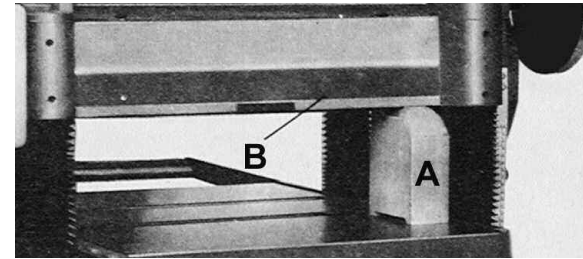

FIGURE 18
3. Move the gauge block (A) to the opposite end of the work table as shown in Fig.18.